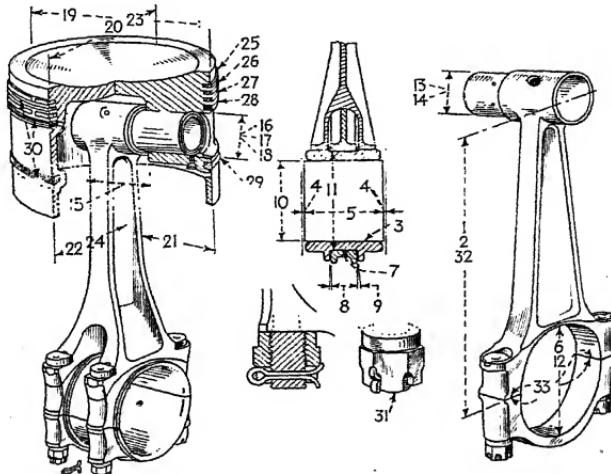

FIG. 20.—Pistons and connecting rods. See list of fits and clearances in Table 3.
snap rings (circlips) at each end. The permissible weight variation for any one piston in an engine is  $\frac{1}{2}$  oz. including the five rings. The construction of pistons and connecting rods is seen in Fig. 20.
Connecting rods are of the forked, or spade, type, also known as marine type. The bearing is a nickel steel sleeve, lined inside and out with a special lead-bronze mixture, divided lengthwise of the bore. The inner lining bears directly on the crankpin. The sleeve is held against turning in the main, or forked, rod. The central, or inner, rod bears on the outer lining of the split bearing, as seen in Fig. 20. This also shows how the rods and caps are held together.
*It is of vital importance that the split pins locking the nuts of both forked and plain connecting rods are a tight fit in their holes and are secured by opening as shown in Fig. 20.*